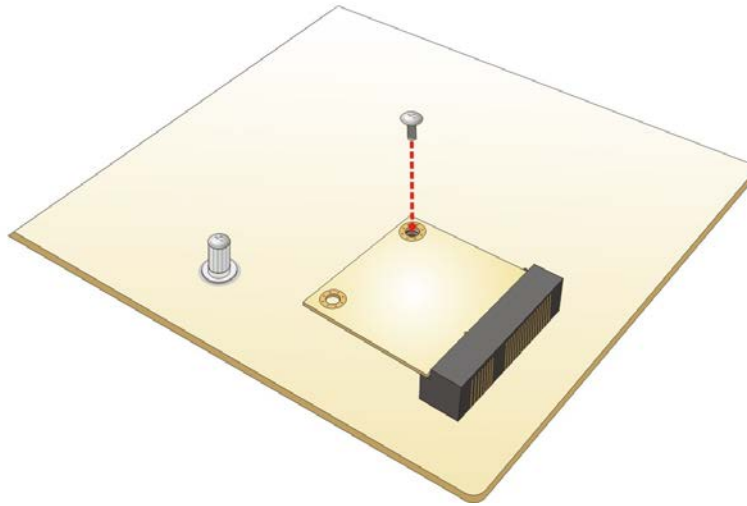

Figure 4-13: Securing the Half-size PCIe Mini Card
Step 4: Secure the half-size PCIe Mini card. Secure the half-size PCIe Mini card with the supplied retention screw (**Figure 4-13**).